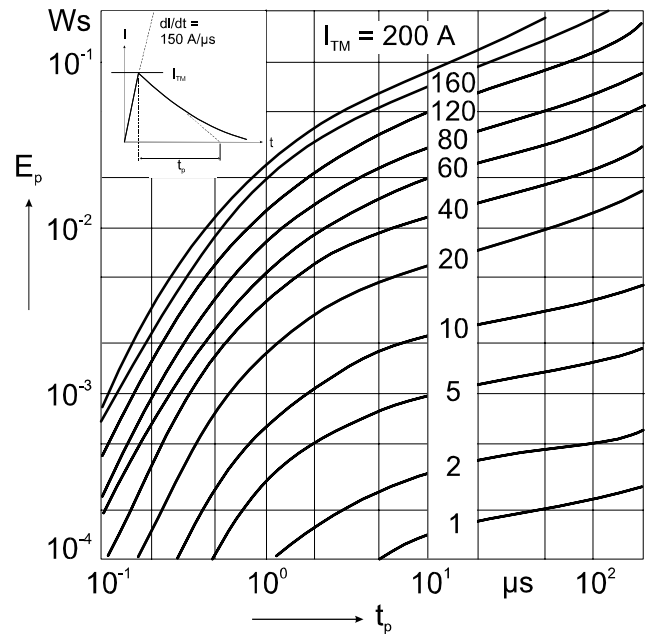

Fig. 6 Energy per pulse for single BOD element for exponentially decaying current pulse. E_p must be multiplied by number of elements for total energy.
a. The maximum junction temperature shall be calculated for a module IXBOD 1 -30R at an ambient temperature $T_a = 60^{\circ}C$, an exponentially decaying current $I_{TM} = 40A$, a pulsewidth $t_p = 2 \mu s$, an operating frequency $f = 50 \text{ Hz}$ and natural convection. From the diagram Fig. 6 the energy per pulse is obtained: